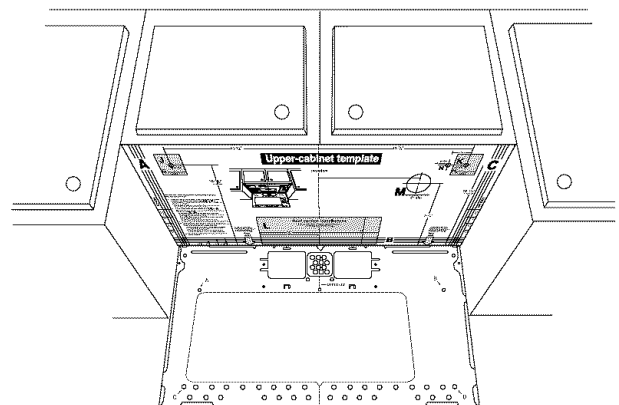

Figure 23
4. Center mounting plate in opening by lining up the plumb line on wall with centerline on mounting plate. Make sure the minimum width is 30 inches and that the top of the mounting plate is located a minimum of 30 inches above the cooking surface. See **Figure 23**.
5. Measure the bottom of the upper cabinet frame. Trim the edges "A", "B" and "C" on the upper cabinet template so that the template will fit on the bottom of the upper cabinet. If upper cabinet has a recessed frame, trim template so that it fits inside the recessed area. Align the centerline of the upper cabinet template with the centerline of the mounting plate; then securely tape or tack the upper cabinet template in place. See **Figure 23**.